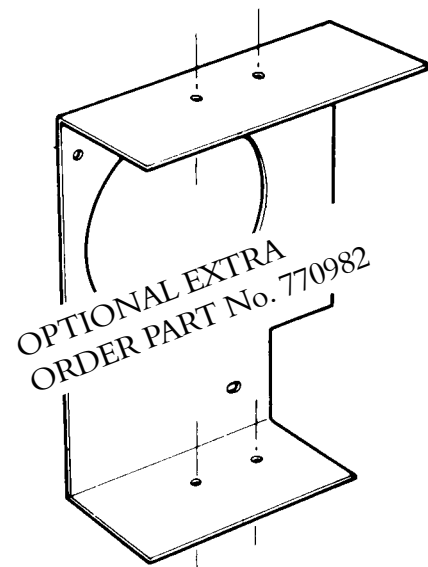

Fig. 7. Mounting bracket for semi-recessed application.
2. Position the mounting bracket (Fig. 7.) in the previously prepared aperture so that the ends of the bracket are flush with the surface of the wall. Secure the bracket with suitable fixings (by others) see Fig.8.